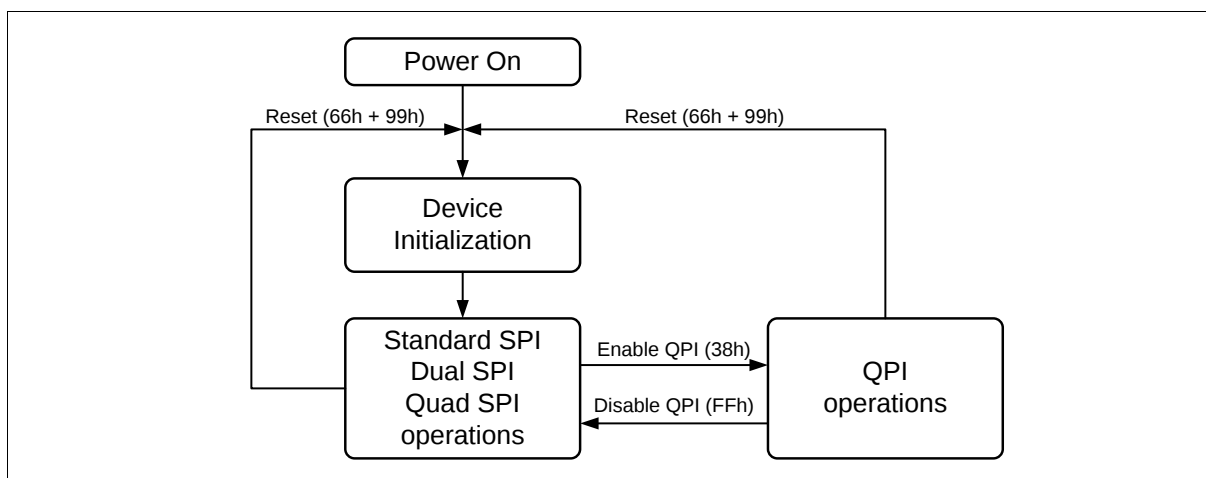

Figure 2 FM25LQ16I3 Serial Flash Memory Operation Diagram
The FM25LQ16I3 supports Quad Peripheral Interface (QPI) operations only when the device is switched from Standard/Dual/Quad SPI mode to QPI mode using the “Enable QPI (38h)” instruction. The typical SPI protocol requires that the byte-long instruction code being shifted into the device only via DI pin in eight serial clocks. The QPI mode utilizes all four DQ pins to input the instruction code, thus only two serial clocks are required. This can significantly reduce the SPI instruction overhead and improve system performance in an XIP environment. Standard/Dual/Quad SPI mode and QPI mode are exclusive. Only one mode can be active at any given time. “Enable QPI (38h)” and “Disable QPI (FFh)” instructions are used to switch between these two modes. Upon power-up or after a software reset using “Reset (66-99h)” instruction, the default state of the device is Standard/Dual/Quad SPI mode. To enable QPI mode, the non-volatile Quad Enable bit (QE) in Status Register-2 is required to be set. When using QPI instructions, the DI and DO pins become bidirectional DQ₀ and DQ₁, and the WP# and HOLD# pins become DQ₂ and DQ₃ respectively. See Figure 2 for the device operation modes.